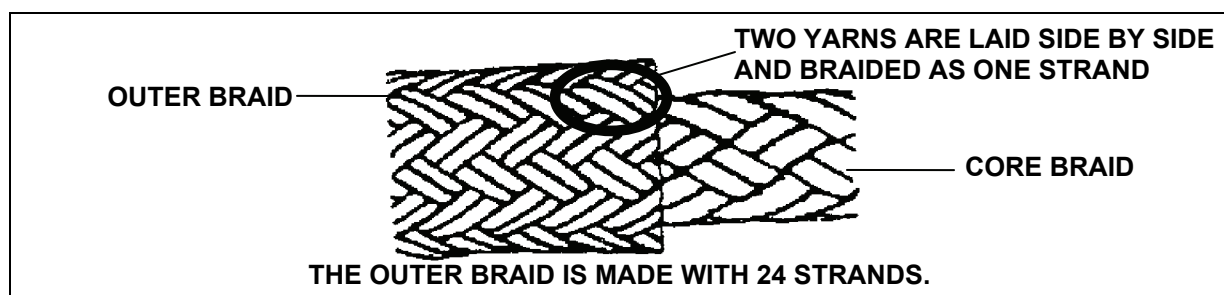

Figure 6-21. Outer Braid and Core Braid of a Sling Leg
- Determining the serviceability of the sling legs is the most difficult and important part of inspecting the sling set. Serious damage or weakening of sling legs can occur without visual damage to the fibers. **Ropes that are known to have been severely overloaded or shock loaded, such as the remaining legs of a sling set after one leg has broken, should be removed from service.** Ropes can also be severely weakened by exposure to certain chemicals. **Ropes with rust stains or stains from a foreign substance should be removed from service.** Each sling leg should be individually inspected for cuts, snags, or worn strands. Pulled strands should be worked back into the rope. The outer braid of the leg is constructed with 24 strands (Figure 6-21) which allows for a certain amount of damage as listed in Table 6-3. No damage to the core braid is allowed. Some fuzziness on the outer surface of the nylon leg is normal. If surface roughness increases or nylon slivers or splinters are present, remove the leg from service. If any doubt exists as to the condition of the sling leg, remove it from service.